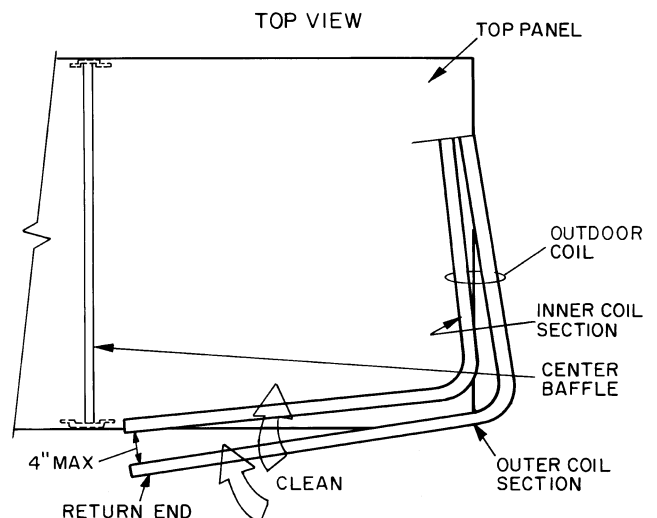

Fig. 45 — Separating Coil Sections
4. Remove the device holding the coil sections together at the return end of the outdoor coil. Carefully separate the outer coil section 3 to 4 in. from the inner coil section. See Fig. 45.